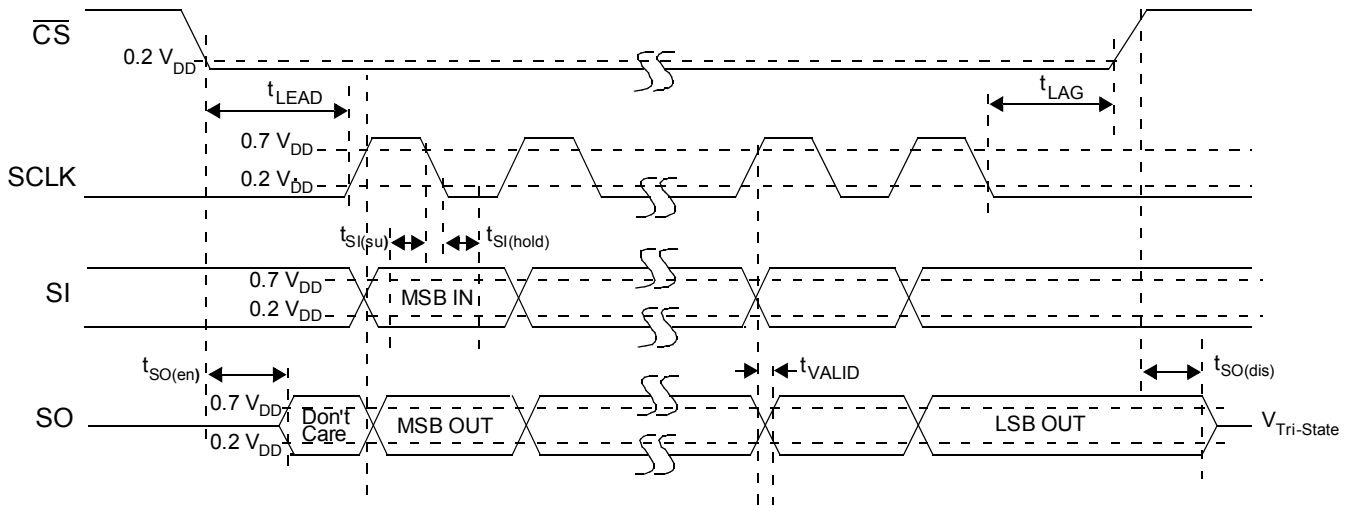

Figure 2. SPI Timing Characteristics
**Serial Input (SI) Pin**
The Serial Input (SI) pin is used to enter one of seven serial instructions into the 33996. SI SPI bits are latched into the Input Shift register on each falling edge of SCLK. The Shift register is full after 24 bits of information are entered. The 33996 operates on the command word on the rising edge of  $\overline{CS}$ . To preserve data integrity, exercise care not to transition SI as SCLK transitions from high to low state (see Figure 2, page 8).
**Serial Output (SO) Pin**